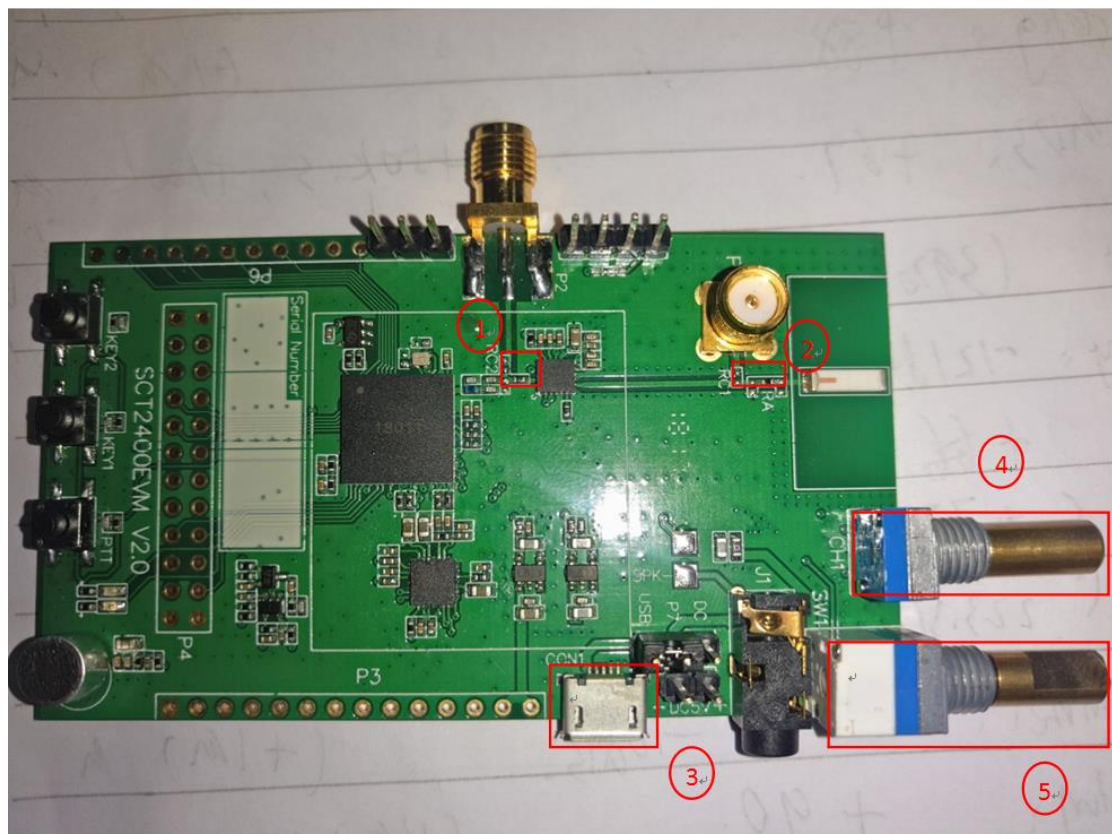
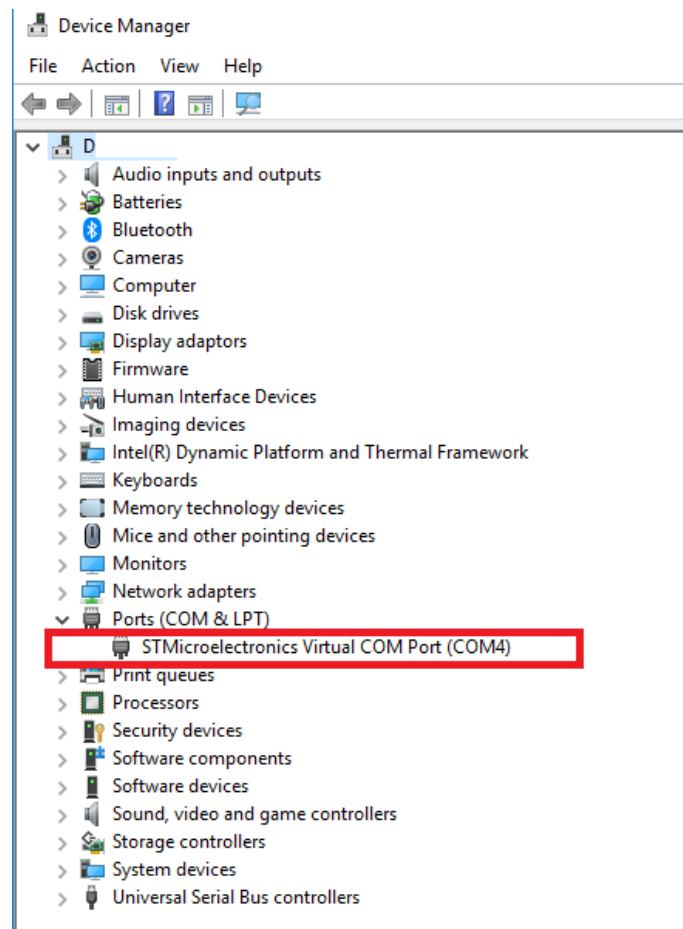
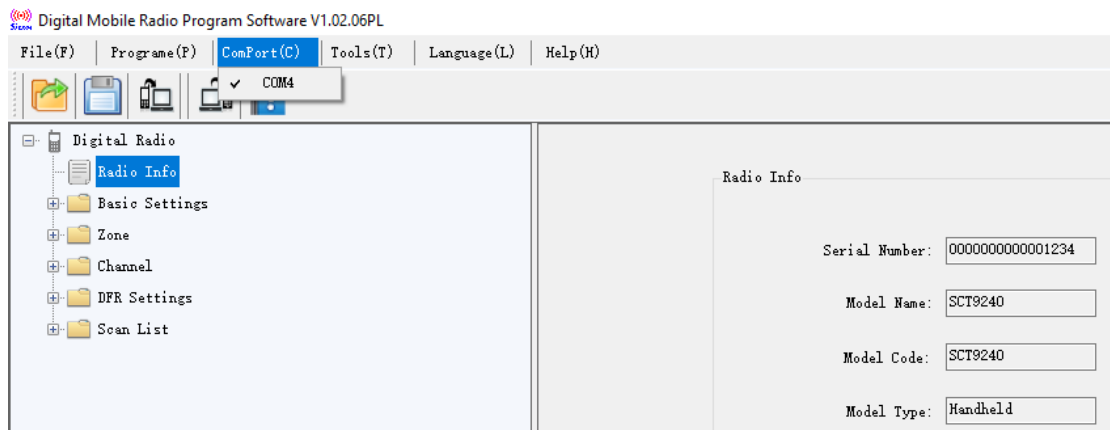
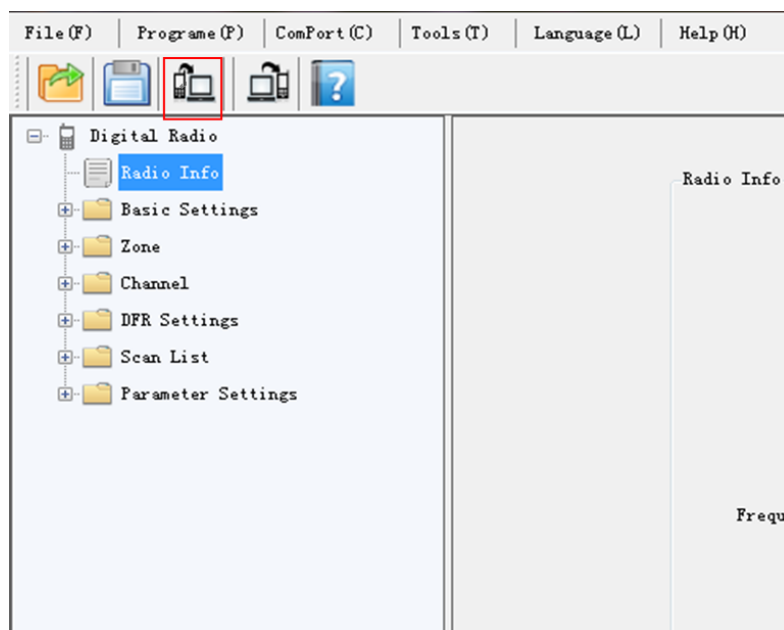

Figure 4.1 SCT2400 EVM
Figure 5.5 USB Identification
Figure 5.7 COM Port
Figure 5.8 Reading Frequency
In order to perform small-scale networking testing, the EVM transmit power should be reduced (output 0dBm). The transmit output of the SCT2400 can be disconnected from the PA (remove C102) and connected to the SMA interface (At ① shown in the Figure 4.1). This operation can also test the receiving indicator of the SCT2400. However, removing the external LNA will result in a deterioration of sensitivity.
The SCT2400 EVM is fitted with an standard LTCC 2.4GHz antenna. To test the transmit power (20dBm) or replace the antenna, disconnect the PA (remove inductor RA) from the LTCC antenna and connect the PA to the SMA interface (At ② shown in the Figure 4.1) by fitting a zero ohm resistor RC.
A voice announcement of the selected channel number is given. An alarm sound will be heard if channel switching exceeds the maximum configured channels (At ④ shown in the Figure 4.1).
**Step 3:** Connect the SCT2400 EVM to the computer via a universal USB cable (At ③ shown in Figure 4.1), then turn on the EVM power switch (At ⑤ shown in Figure 4.1) and confirm the USB identification in Device Manager (Shown in Figure 5.5).
First, run the CPS software, and connect the EVM to the computer, turn on the EVM power switch (At ⑤ shown in Figure 4.1). Click "ComPort" and select the appropriate COM port which should show in the drop down list (Shown in Figure 5.7). Click "Program" and find the "Read" icon to implement the reading operation (See Figure 5.8).